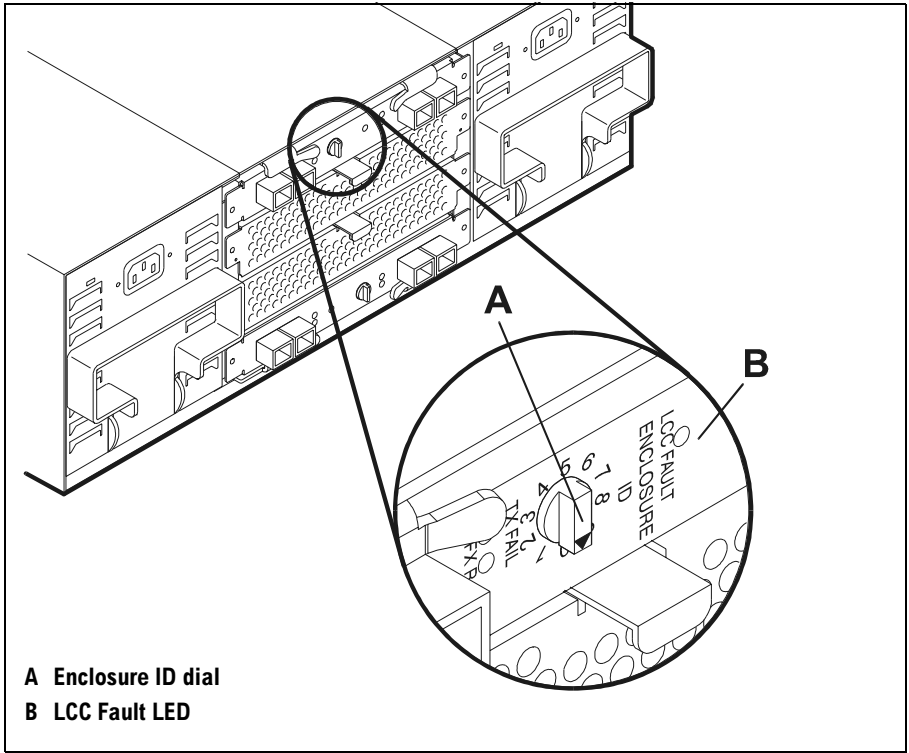

Figure 46 Enclosure ID and LCC Fault LED
7. Set the Enclosure ID (A in Figure 46) to the Enclosure ID (0–9) on the peer LCC.
11. Watch the LCC Fault LED (B in Figure 46). It should come on briefly and then turn off. If the LED is on and a buzzer sounds, the Enclosure ID does not match the peer's. For other solutions to an LCC fault, see Isolating Causes, page 99.